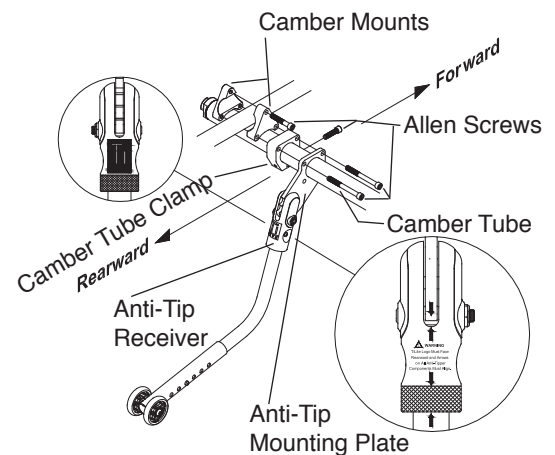

Figure 9
Do not disassemble the anti-tip mounting assembly (see Figure 9). *If you ignore this warning, you may fall, tip over or lose control of the wheelchair and seriously injure yourself or others or damage the wheelchair.*
2. Remove the Allen Screws that secure the camber tube clamps to the camber mounts. See Figure 9.
6. Reattach the camber tube clamps and the anti-tip mounting plates to the camber mounts using the Allen Screws as shown in Figure 9.
7. **⚠️ WARNING:** Make sure that the TiLite logo is visible on the rearward side of the user-friendly anti-tip receivers as shown in Figure 9 and that the white arrows are all aligned on the opposite (forward) side of the anti-tip components as shown in Figure 9. *If you ignore this warning, you may fall, tip over or lose control of the wheelchair and seriously injure yourself or others or damage the wheelchair.*